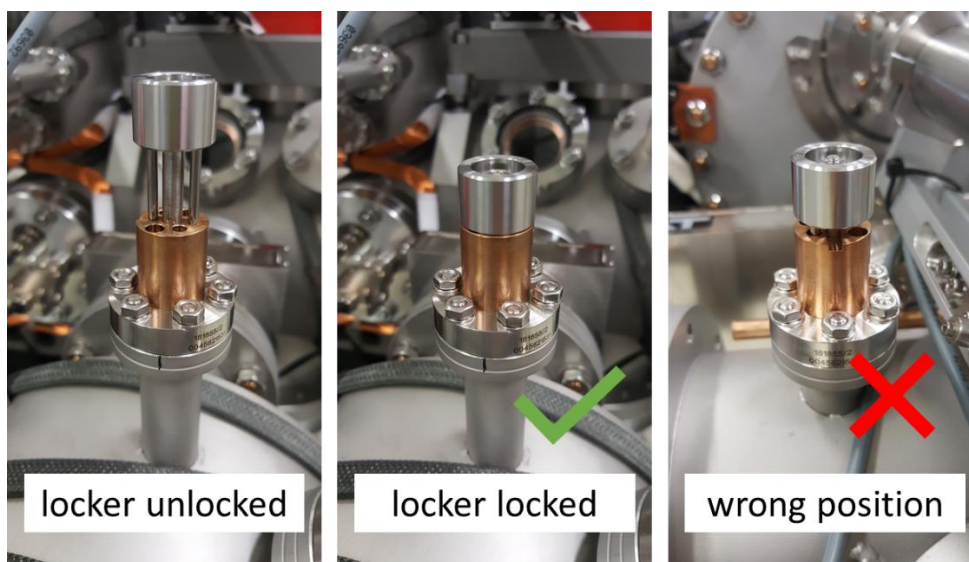

Figure 292: shuttle locker positions.
- Insert the shuttle locker to prevent the shuttle from moving. If the locker doesn't fall all the way, it means the rod, thus the sample, is not in the right position (Figure 292).